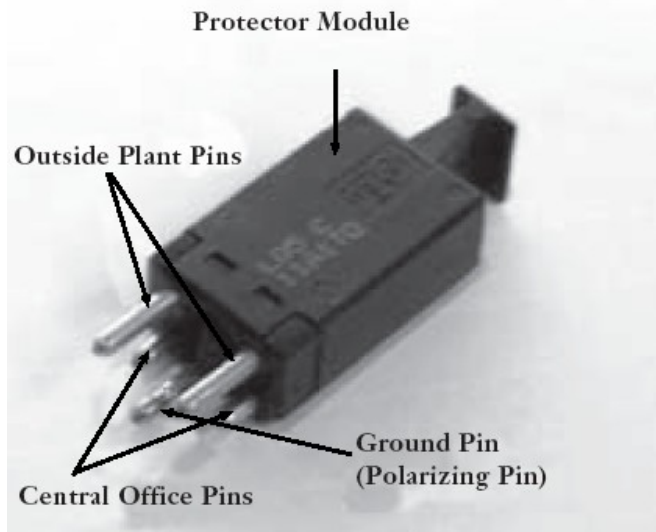

Figure 6
6.1 Several types of protector modules are available to satisfy various CO requirements for line and equipment protection. The protector modules are all equipped with five contact pins and a plastic shell (Figure 6). The plastic shell of the module is made from a self-extinguishing plastic insulating material.